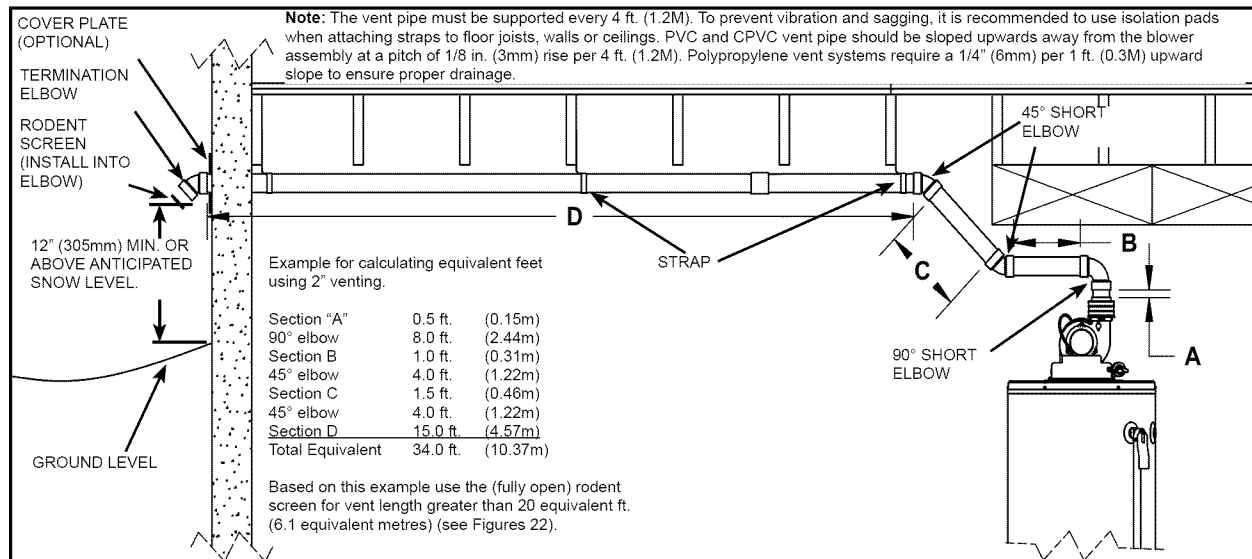

Figure 24
Figure 20 shows examples of good venting assembly practice. Table 1 lists the allowable vent materials and sizing information. Figure 24 shows the general venting layout while Figures 30-32 show various end termination details and clearances. Connection of the venting piping to the blower is shown in Figures 33-36.
- Refer to Figure 24 and Table 1 for vent pipe materials and sizing. Examples of the vent terminations are shown in Figures 30 and 31. If the installation requires a vent riser, suitable drainage must be provided to ensure condensation does not accumulate. Termination through a roof is shown Figure 32.
Installed into the vent termination elbow, the vent screen is required to keep foreign objects, rodents and small birds from entering the venting system. These screens have been sized to ensure maximum energy efficiency of the vent system based on the "equivalent length" of the vent piping. **CHOOSE ONLY the ONE SCREEN THAT MATCHES YOUR VENTING CONFIGURATION** (see Figure 22). How to determine the "equivalent length" is shown in Figure 24 and in Table 1.
5. Calculate "Equivalent Vent Length" before starting. Do not exceed the values shown in Table 1. An example of how this length is determined is shown in Figure 24. The value from your calculations should also be used to determine which rodent screen to install into the vent termination elbow.